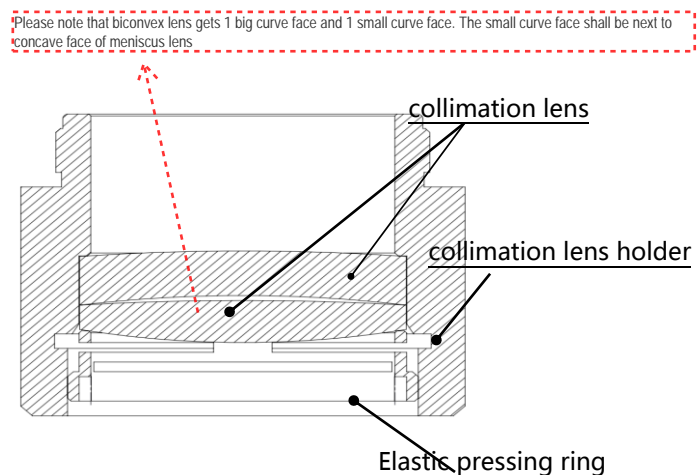

Figure 6.6 - Diagram of installing collimation lens
- As shown in Figure 6.6, reassemble the components of collimating lens in order, pay attention to